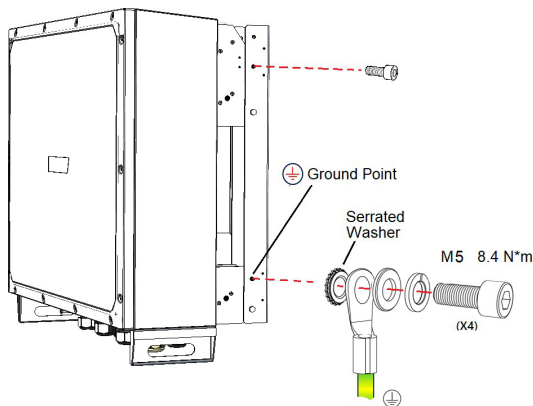

Figure 30 Grounding the mounting bracket of the inverter
Make sure the CAN Switch (see item 9 in *Figure 30*) is set to the ON position on the first and last inverters on the CAN bus.
5. Loosen the nut (3) of the Comm 1 gland (4) and remove the rubber seal (5).
6. Route the communication cable (6) via one of the openings in the rubber seal, through the gland, and the communication compartment cover (2).
7. Pull down to remove the communication board (7) from the enclosure.
9. Secure the wires to the terminal screws of the connector (8) and plug the connector to the communication board (7). Connect the other end of the cable to the same terminals of the next inverter.
10. Terminate the first and last inverters on the communication bus by moving the CAN Switch (9) to ON. All other inverters on the bus must be switched to OFF. Make sure the resistance between H and L is 120Ω .
11. Install the communication board (7) back onto the enclosure.
12. Place the communication compartment cover (2) and secure the four Allen screws (1) to a torque of $3.9\text{ N}\cdot\text{m}$ (see *Figure 30*).
13. Place the rubber seal (4) inside the gland nut (3) of the Comm1 gland (13) and fasten the nut to a torque of $5.5\text{ N}\cdot\text{m}$.